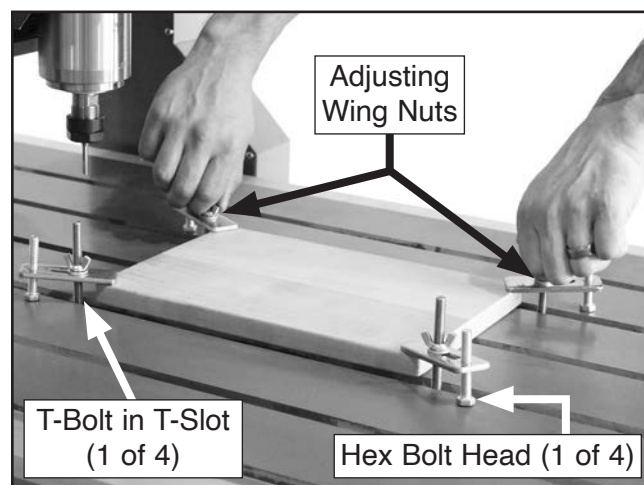

Figure 124. Example of clamping workpiece to table.
4. Slide T-bolts into T-slots, then adjust wing nuts and hex bolts so clamp plates are higher than workpiece (see **Figure 124**).